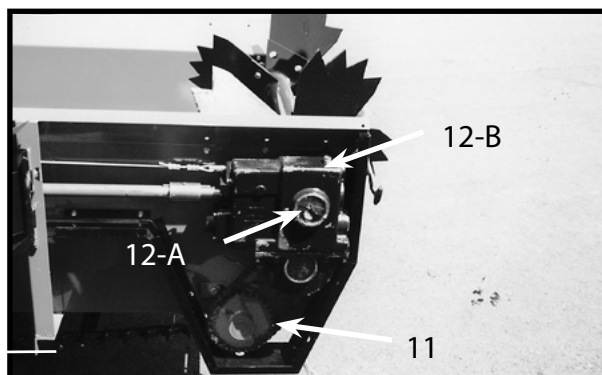

Figure 16-1
11. Lubricate drive chains with engine oil every 100 loads or once a month- One (1) Figure 16-1.
12. Check worm gearbox twice a year for proper oil level at the check plug, One (1), 12-A Figure 16-1. If needed, fill (12-B) to the check plug with SAE 80-90 gear oil .